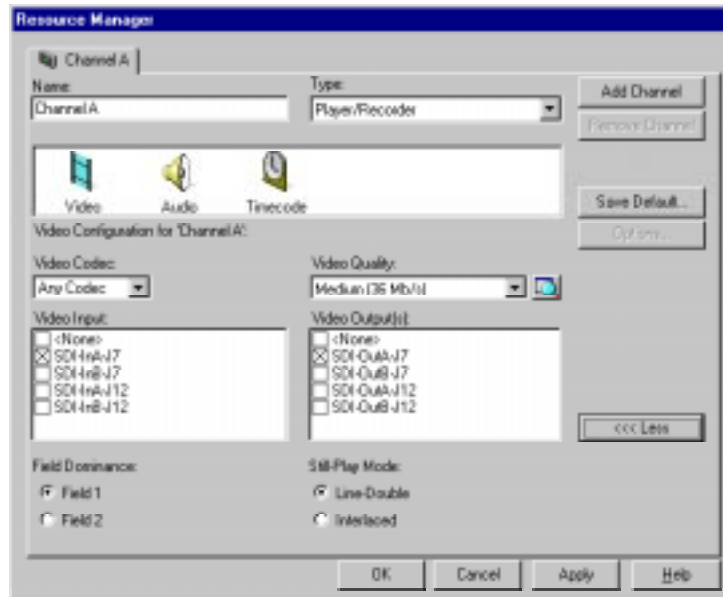

Figure 137. Resource Manager dialog box
- Choose **Project | Configure** and the Resource Manager dialog box appears (see Figure 137).